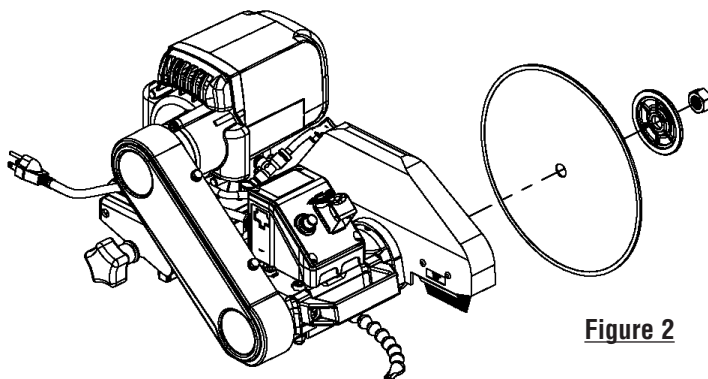

Figure 2
2. Remove the blade shaft nut and outer flange. *See Figure 2.* If a blade has been mounted, hold the blade with one hand and use the other hand to loosen the nut with the universal wrench. Remove existing blade.